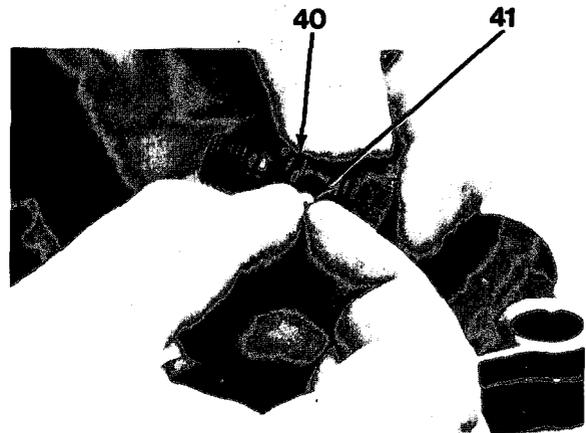

Figure 7-28
4. Assemble locating fitting and O-rings (40) and ball (41, Figure 7-28).